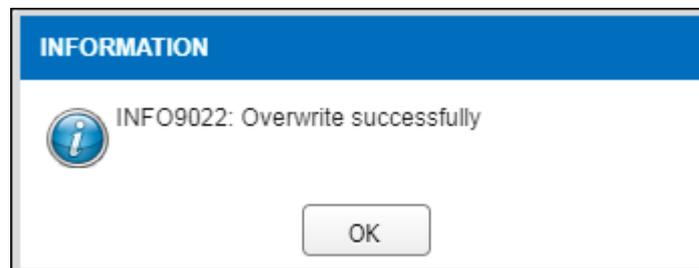

Figure 3.2-4 Information Alert Message
- Click on  button to confirm the transaction and alert message will be shown in Figure 3.2-4